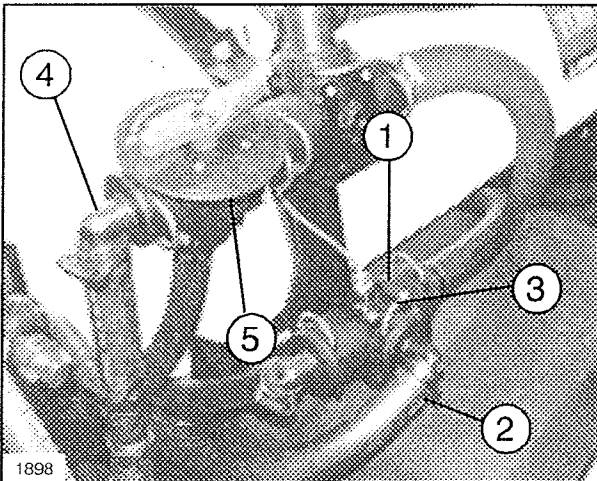

FIG. 10
25. Remove Plug from Pressure Tee on right of machine and install Pressure Supply Hose. Secure with U-Shaped Fork. Attach other end of Hose to Tee at left of Control Valve. Secure with Hose Clamp. (See FIG. 10 & 11)
26. Attach Agitation Hose to Control Valve Bypass and secure with large square Fork. Attach other end of Hose to bottom of Agitation Control Valve, hand tighten nut. (See FIG. 10 & 11)